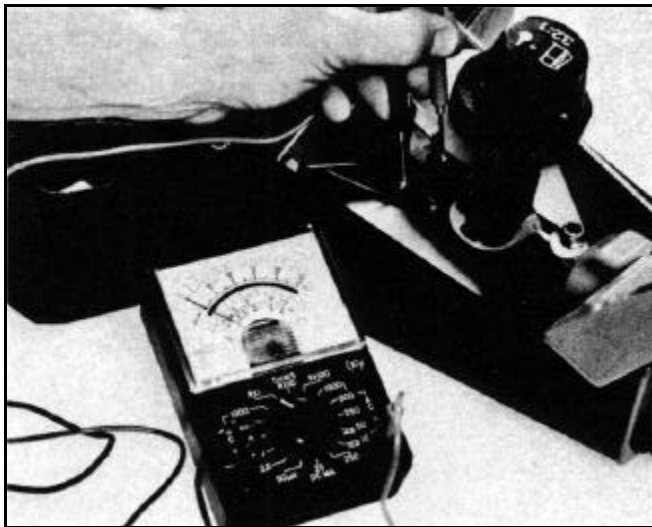

Figure 195
- Now, turn the ignition switch to the "ON" or the 2 o'clock position. Visually check to ensure that the switch actuator is not in contact with the contact switch terminals. The tester should not register continuity when the switch is in the "ON" position (Figure 195). Switch parts which are loose, bent, or damaged should be replaced.